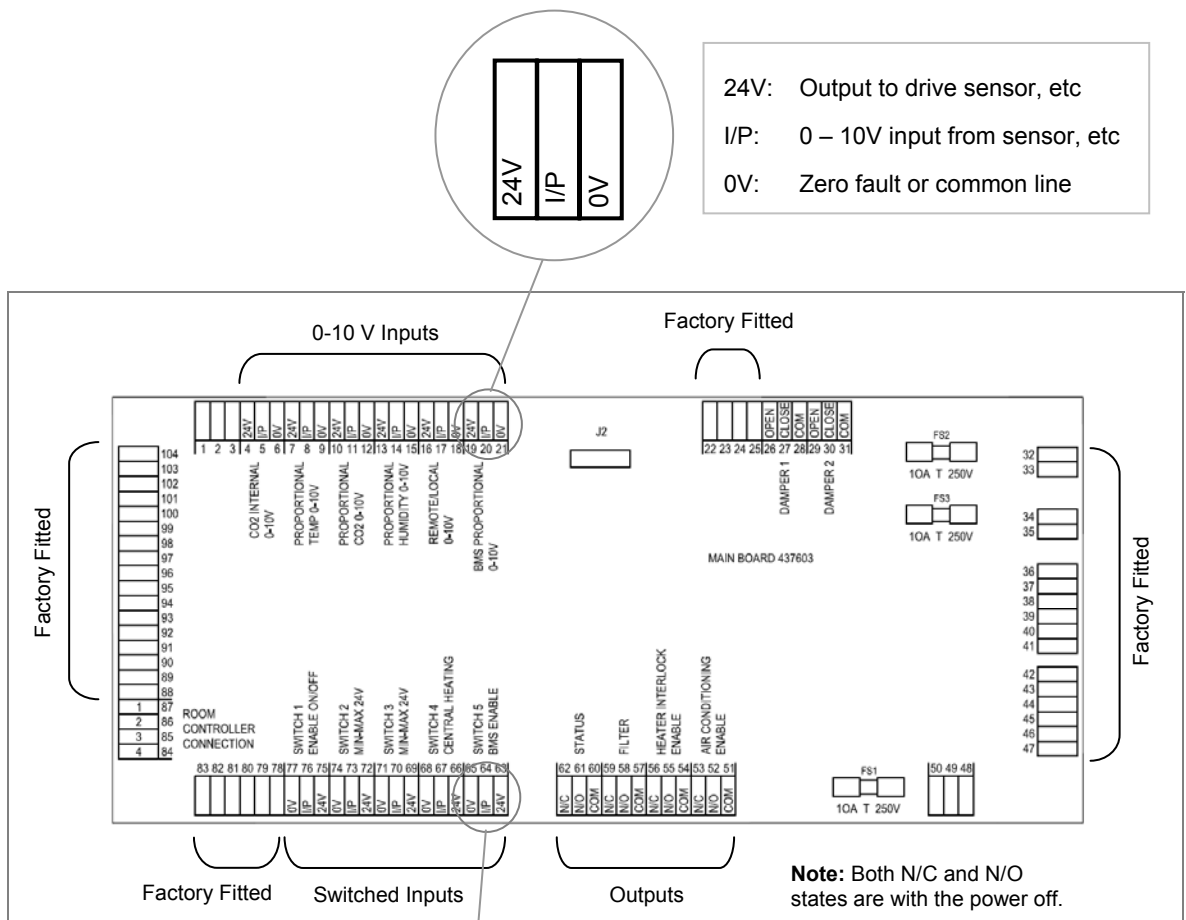

Figure 7: Main Controller PCB Terminal Connections
4. Connect pins 1-4 on the Commissioning Interface terminal block to the corresponding pins 1-4 on the Main Controller PCB, see *Figure 7: Main Controller PCB Terminal Connections*, i.e. connect Commissioning Interface pins 1 to 87, 2 to 86, 3 to 85 and 4 to 84.